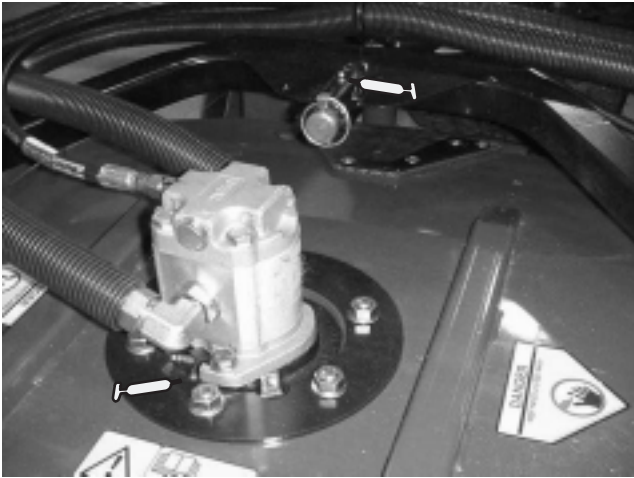

Figure 20
- Cutting unit spindle shaft bearings (1 per cutting unit) (Fig. 20)
- Cutting unit carrier arm bushings (1 per cutting unit) (Fig. 20)